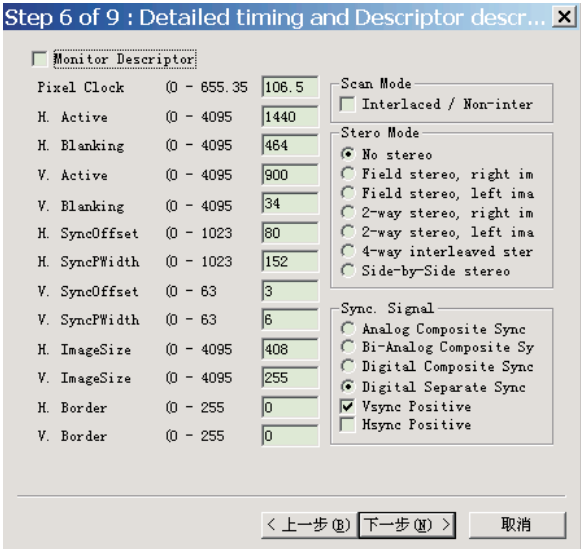

Fig. 36
- 5. Click Next , bring up Fig. 36.